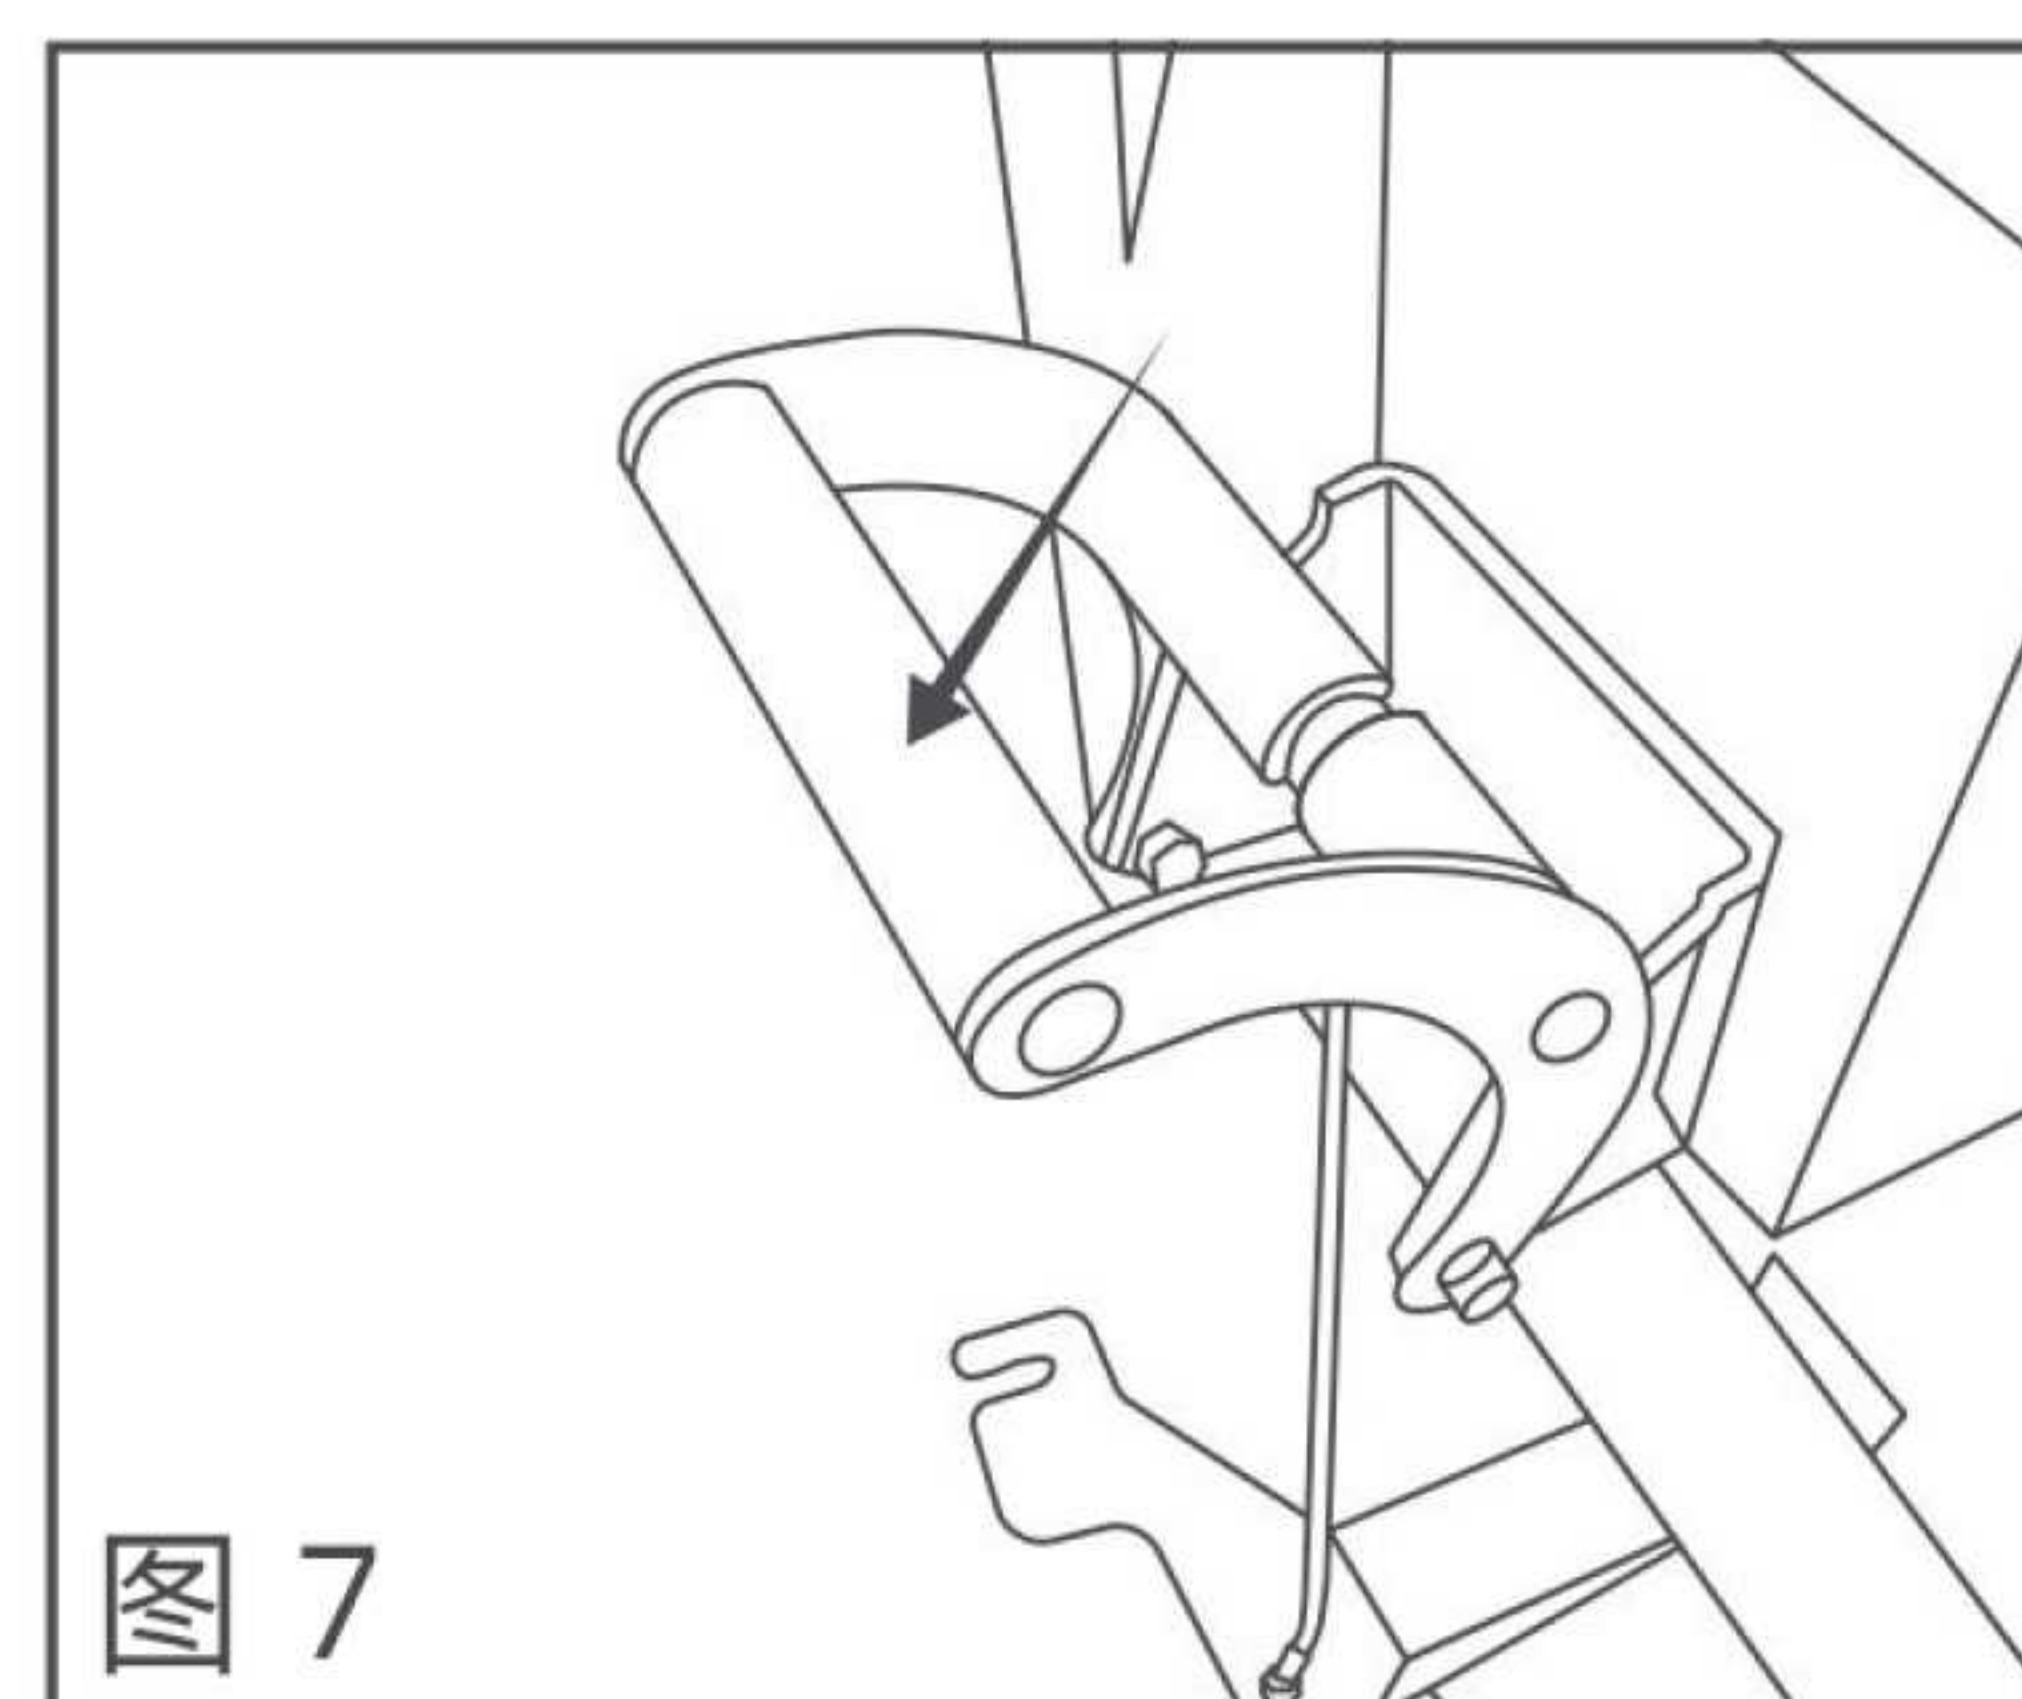

图 7
- 放下吸水扒提拉把手，使吸水扒组件降至地面(图7);
Put down the squeegee lifting handle to lower squeegee assembly to the ground (Figure 7);